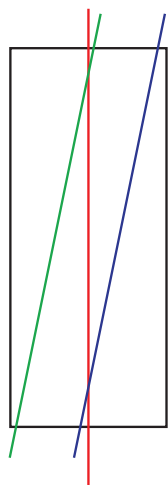

Figure 5. These axes are parallel with each other while intersecting the center axis.
- Axes can also be parallel to each other and can cross (intersect) the center axis (Figure 5).